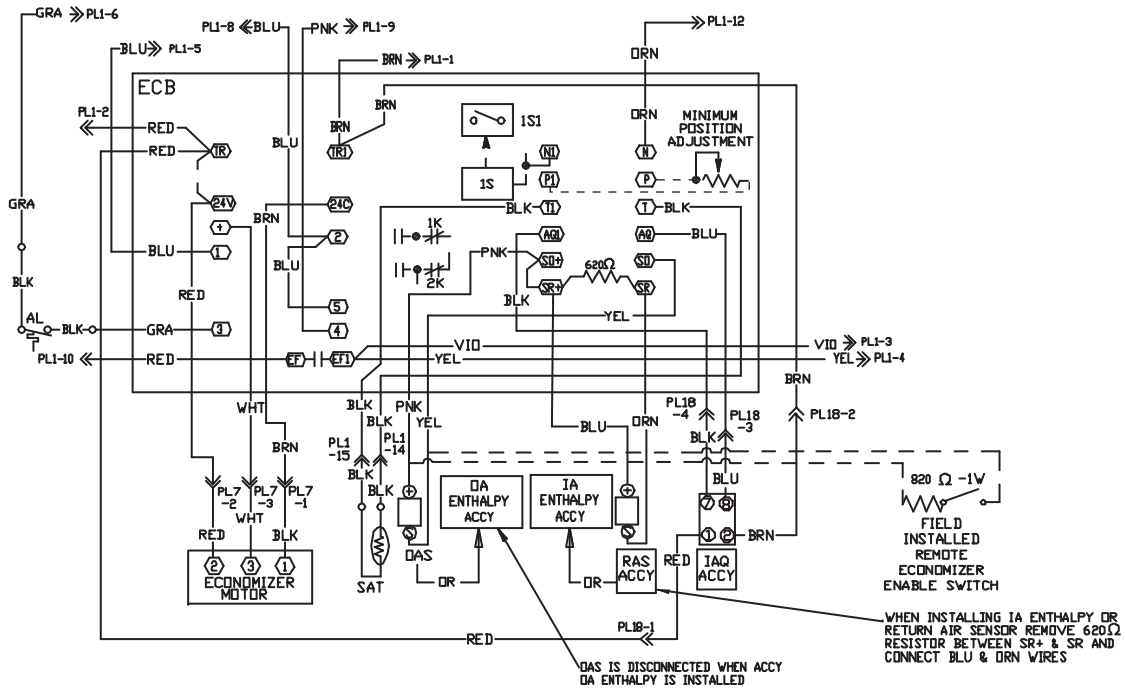
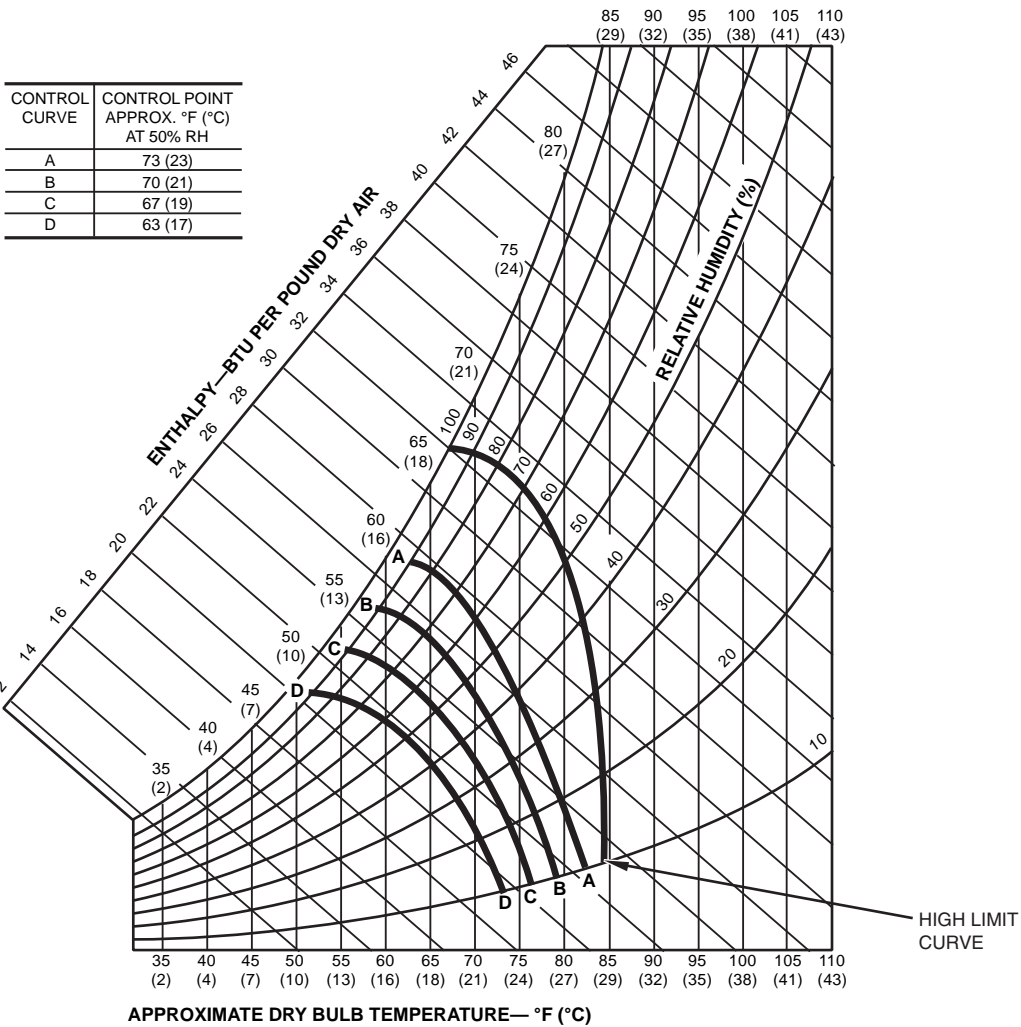
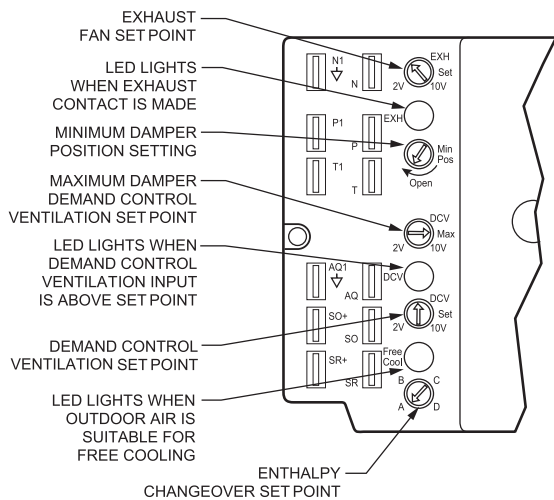

Fig. 23 — EconoMiSer IV Wiring
Fig. 24 — Enthalpy Changeover Set Points
Fig. 25 — EconoMiSer IV Controller Potentiometer and LED Locations
Differential Dry Bulb Control — For differential dry bulb control the standard outdoor dry bulb sensor is used in conjunction with an additional accessory dry bulb sensor (part number CRTEMPSN002A00). The accessory sensor must be mounted in the return airstream. Wiring is provided in the EconoMi\$er IV wiring harness. See Fig. 23.
changeover set point, the outdoor-air damper moves to its minimum position. The outdoor enthalpy changeover set point is set with the outdoor enthalpy set point potentiometer on the EconoMi\$er IV controller. The set points are A, B, C, and D. See Fig. 24. The factory-installed 620-ohm jumper must be in place across terminals S_R and + on the EconoMi\$er IV controller. See Fig. 23.
Replace the standard outside air dry bulb temperature sensor with the accessory enthalpy sensor in the same mounting location. Mount the return air enthalpy sensor in the return air duct. Wiring is provided in the EconoMi\$er IV wiring harness. See Fig. 23. The outdoor enthalpy changeover set point is set with the outdoor enthalpy set point potentiometer on the EconoMi\$er IV controller. When using this mode of changeover control, turn the enthalpy set point potentiometer fully clockwise to the D setting. See Fig. 25.
Exhaust Set Point Adjustment — The exhaust set point will determine when the exhaust fan runs based on damper position (if accessory power exhaust is installed). The set point is modified with the Exhaust Fan Set Point (EXH SET) potentiometer. See Fig. 25. The set point represents the damper position above which the exhaust fans will be turned on. When there is a call for exhaust, the EconoMi\$er IV controller provides a 45 ± 15 second delay before exhaust fan activation to allow the dampers to open. This delay allows the damper to reach the appropriate position to avoid unnecessary fan overload.
Minimum Position Control — There is a minimum damper position potentiometer on the EconoMi\$er IV controller. See Fig. 25. The minimum damper position maintains the minimum airflow into the building during the occupied period.
3. Ensure that the factory-installed jumper is in place across terminals P and P1. If remote damper positioning is being used, make sure that the terminals are wired according to Fig. 23 and that the minimum position potentiometer is turned fully clockwise.
To control the minimum damper position remotely, remove the factory-installed jumper on the P and P1 terminals on the EconoMiSer IV controller. Wire the field-supplied potentiometer to the P and P1 terminals on the EconoMiSer IV controller. See Fig. 23.